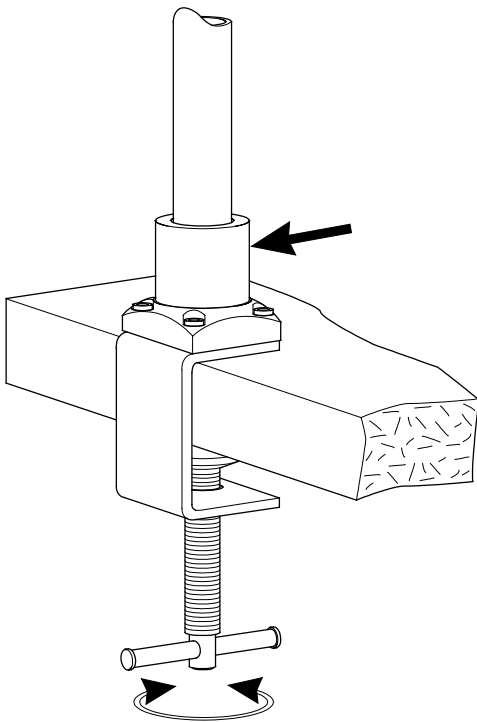

Figure 3-3. Table mounting
- \* Clamp the table mounting device to the table top as shown in Figure 3-3 or screw the top of the mounting device directly on to the table.
- \* The pole tube must be secured with a hexagon socket screw (arrow, Figure 3-3) (screw driver is included).